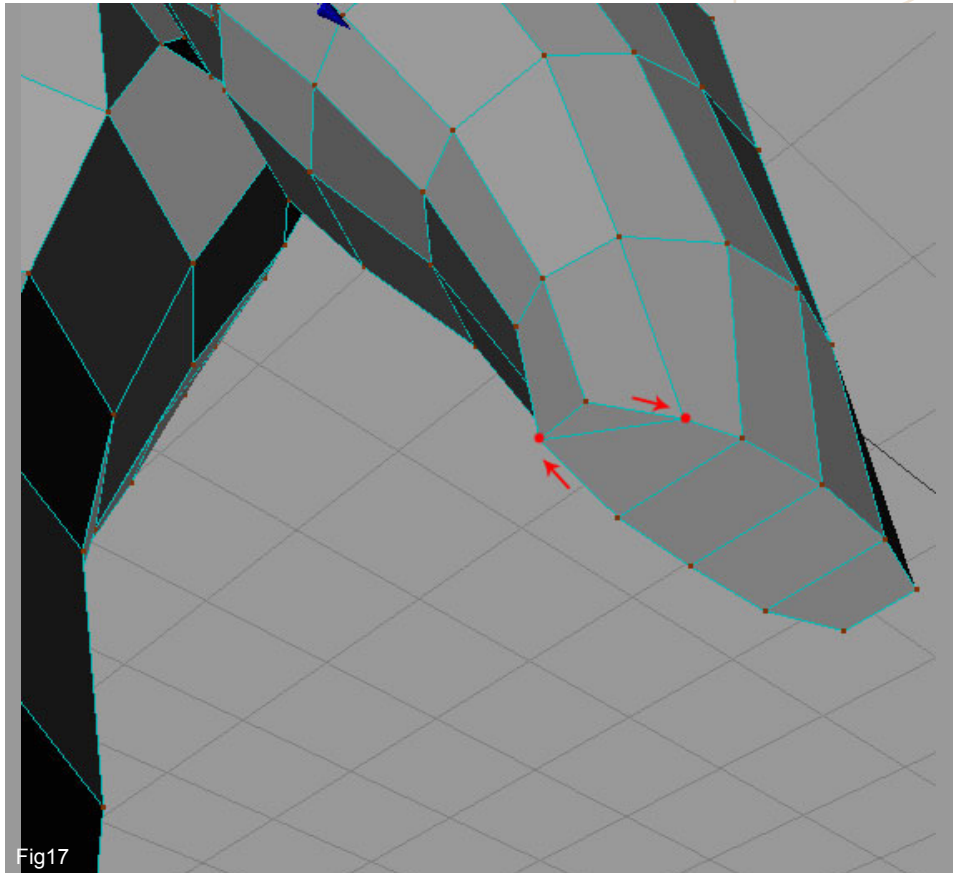

Fig17
14. In order to prepare for the thumb, move the two vertexes, as shown in Fig17.